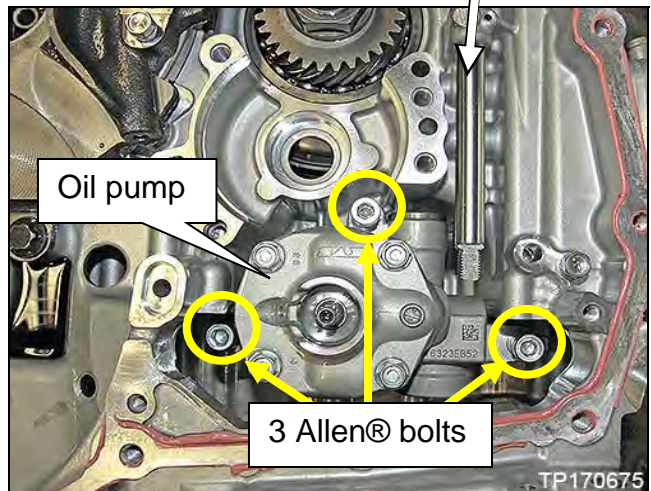

Figure 23H
24. Remove the three (3) Allen® bolts shown in Figure 23H and then remove the oil pump from the CVT case.